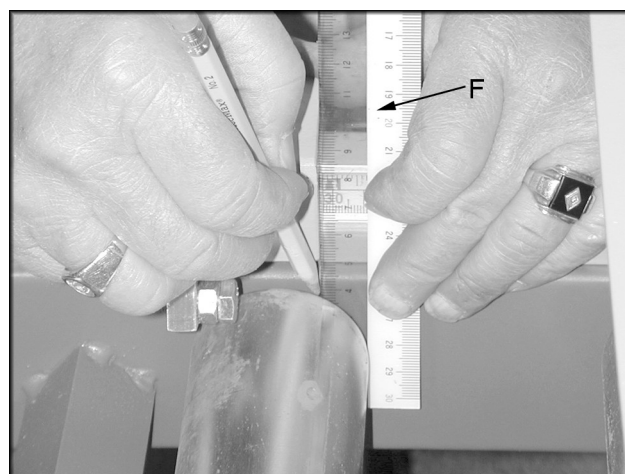

Figure 16
5. Place a ruler (F, Figure 16) against the edge of the stop. Mark the current 12" location on the roller table and rail with a pencil, as shown in Figure 16.